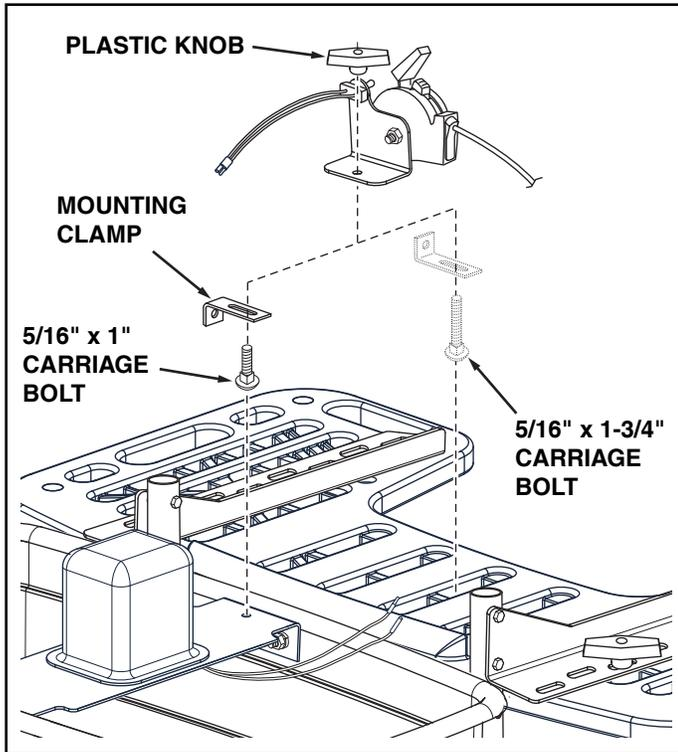

FIGURE 12
- Attach an angle stop bracket and a swivel bracket to the rear hole in the R.H. shield bracket using a 1/4" x 1" hex bolt, two 1/4" washers, a nylon washer and a 1/4" Nylock nut. Place the angle stop bracket on inside and swivel bracket on outside. **Tighten** locknut so the swivel bracket can pivot freely. See figure 12. Repeat step on L.H. shield bracket.
- Attach a swivel bracket to front hole in the R.H. shield bracket using a 1/4" x 1" hex bolt, two 1/4" washers, a nylon washer and a 1/4" Nylock nut. **Tighten** the nut so that the swivel bracket can pivot freely. See figure 12. Repeat step on L.H. shield bracket.
- 19. Connect the short (fused) wire harness to the vehicle battery by connecting the red wire to the positive post and the brown wire to the negative post on the battery. The wire harness may be left permanently attached to the battery. See figure 12.
- 20. Connect the long wire harness to the spreader by connecting the red and white wires to the switch and the brown and white wires to the spreader motor. Refer to figure 12.